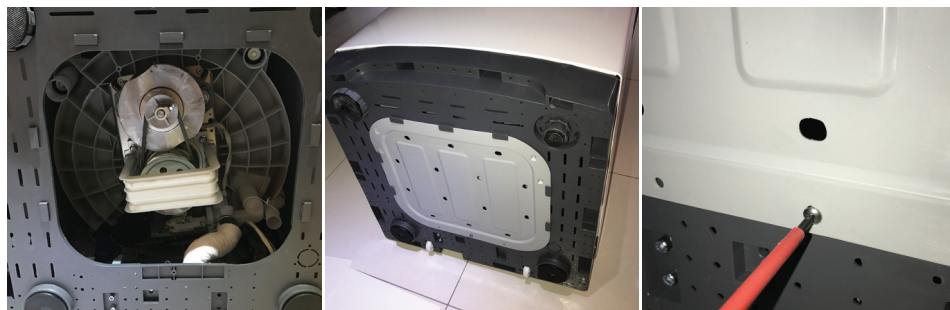

Fig. 2
- Insert the base cover into the grooves on the underside of the washing machine. (Fig. 2)
- Now secure the base cover by tightening the screw in the centre screw hole as shown in Fig. 2